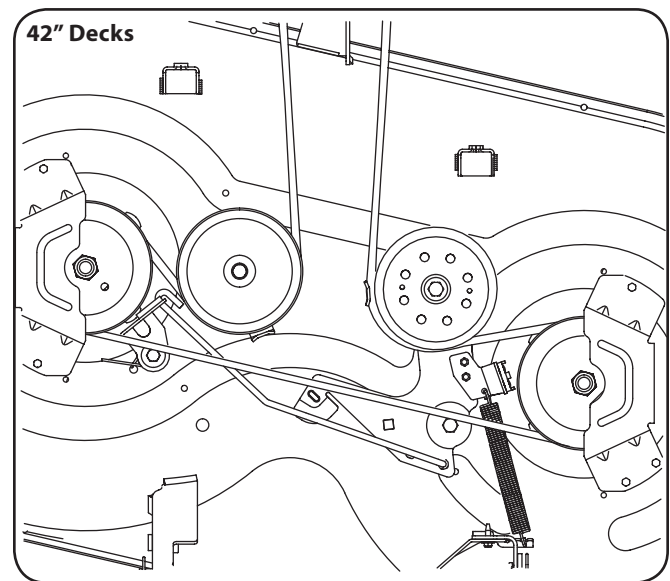
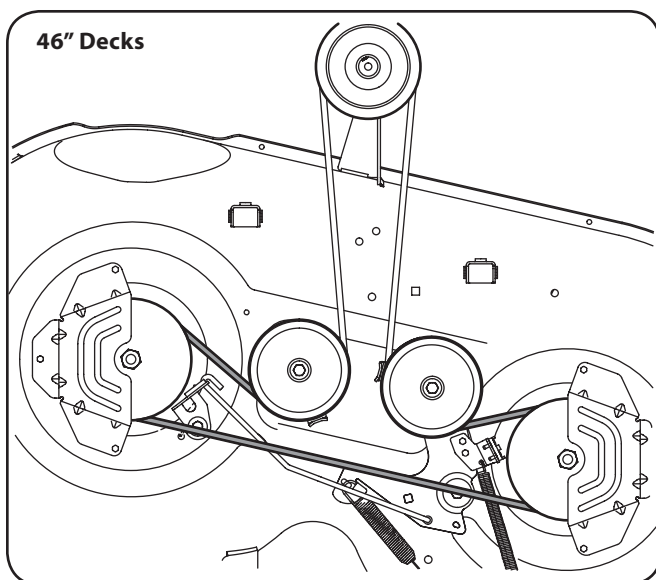
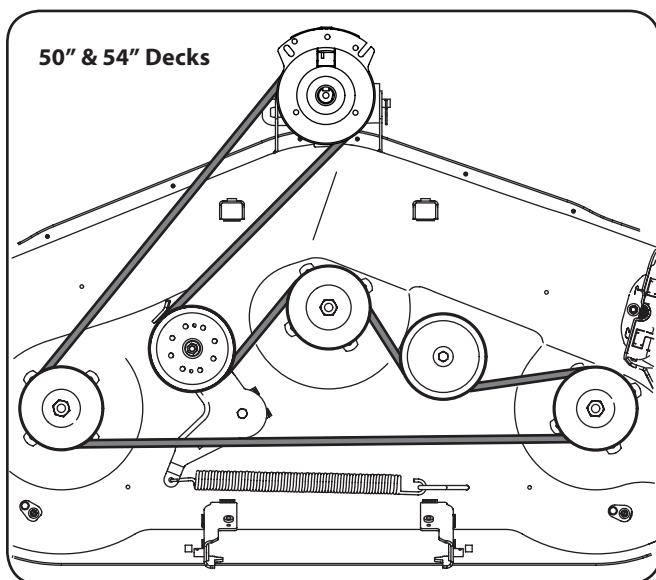

Figure 7-7
Figure 7-8
Figure 7-9
- Route the new belt as shown in the applicable figure on the following pages. See Figure 7-7 for 42" decks, Figure 7-8 for 46" decks and Figure 7-9 for 50" & 54" decks.